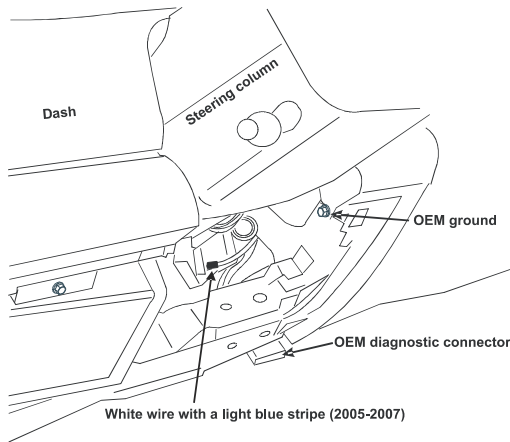

Figure 3
- Connect the “Key Switched 12 Volt” yellow wire to the OEM white with light blue stripe wire (2005-2007) located in the bundle of blunt cut wires near the diagnostic connector (Figure 3).